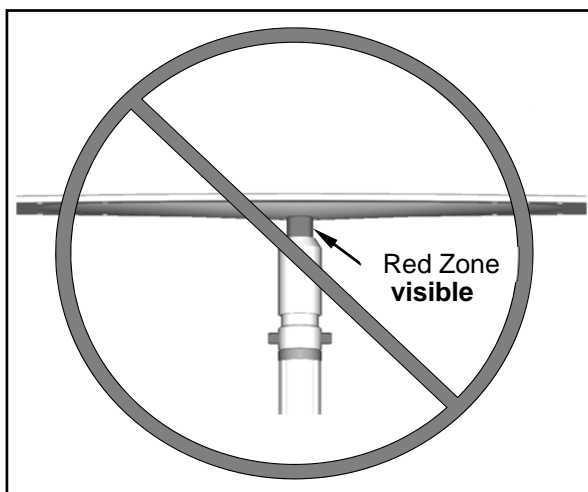
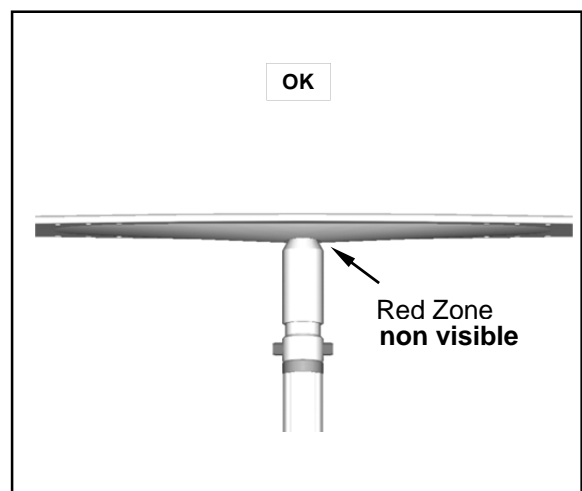

Figure 31
Figure 32
16. Once the bubble is in the centre of the clip-on level – continue to tighten **ONLY** until the red zone at the top of the post is no longer visible (see Figure 31 and Figure 32).